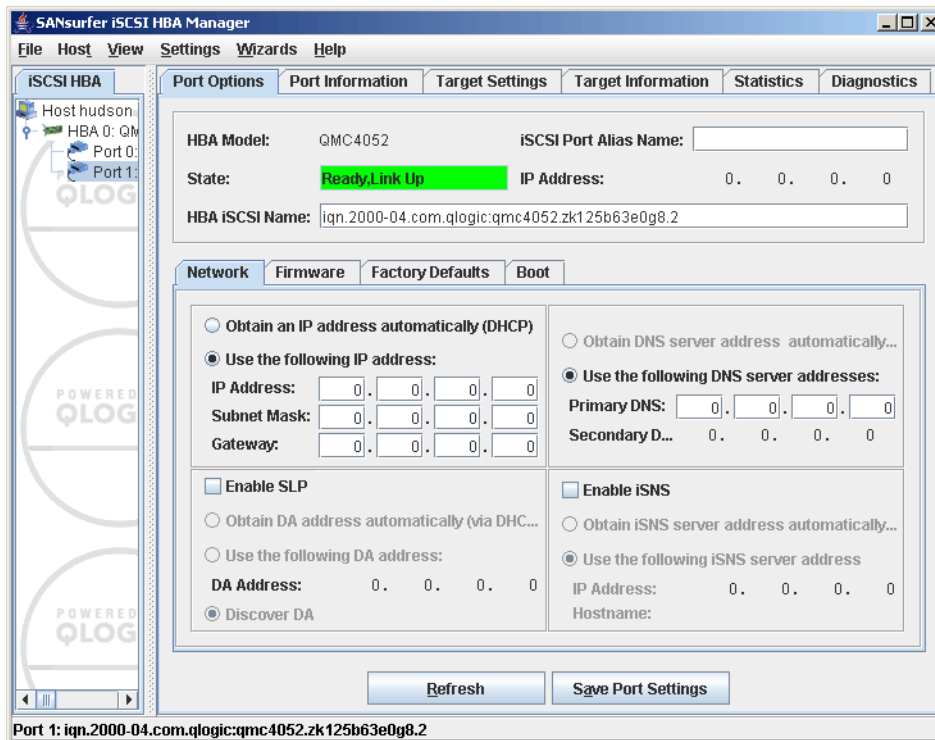

Figure 21-41 SANsurfer - Port option - Network -Second port
- Configure the IP address of the second HBA port to use later redundant paths to the storage subsystem. Select the second port of the HBA on the iSCSI HBA tab. See Figure 21-41 on page 507.